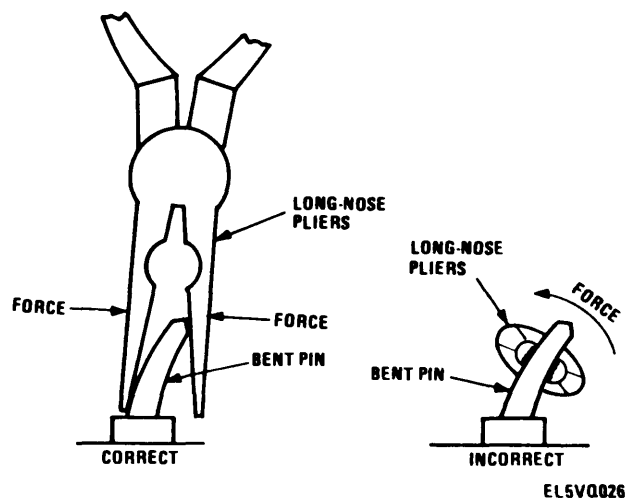

Figure 3-11. Pin Straightening procedure.
a. Always inspect a module for bent or broken pins before inserting it into the frame sockets. To straighten bent pins, use needle-nose or long-nose pliers with smooth jaws. Position the jaws so that the whole pin is straightened simultaneously (see fig. 3-11 ).